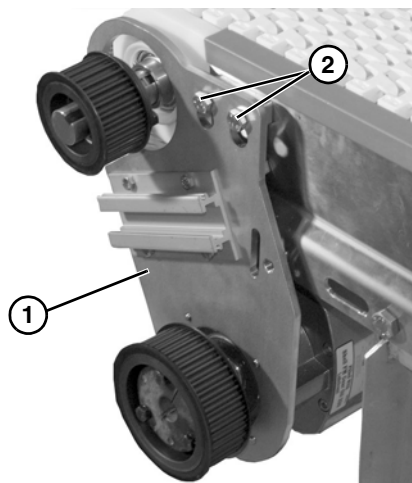

Figure 4
3. Attach bottom mount assembly (**Figure 4, item 1**) with the two bolts (**Figure 4, item 2**).